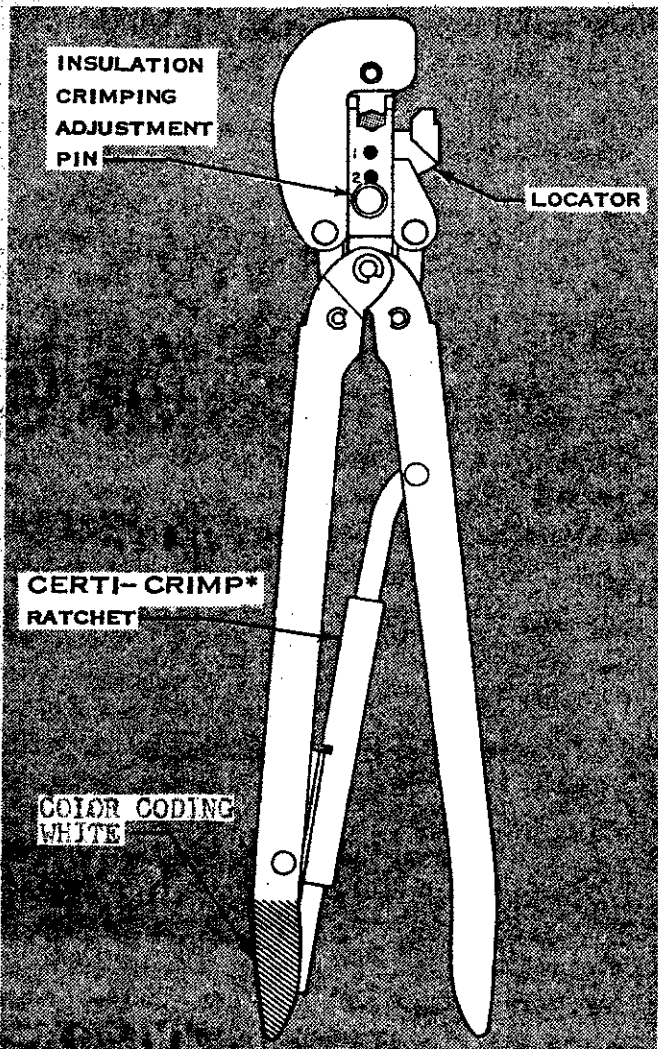

Fig. 1
1. The Tools, see Figure 1, covered by this Instruction Sheet are used to crimp A-MP 16-14 H.D. PLASTI GRIP*(PG)Terminals.
(a) To open Tool Handles, squeeze them until CERTI-CRIMP Ratchet (see Figure 1) releases. Note that once Ratchet is engaged, Handles cannot be opened.